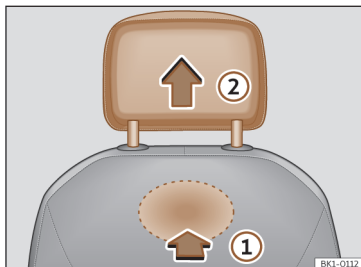

Fig. 98 Front head restraint: removal.
- To unlock it, look for the rabbit on the bottom of the backrest and press in the direction of the arrow >>> Fig. 98 ①.
- Remove the head restraint in the direction of the arrow ②.